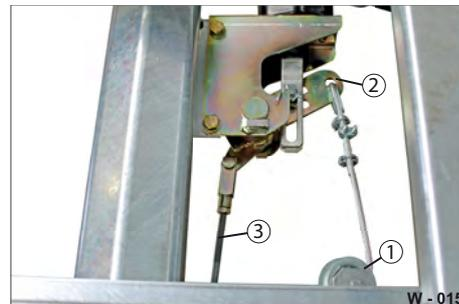

Fig. 15 Transfer mechanism
- ▶ Lubricate the guide pulley (Fig. 15/1) as well as friction and bearing points with grease.